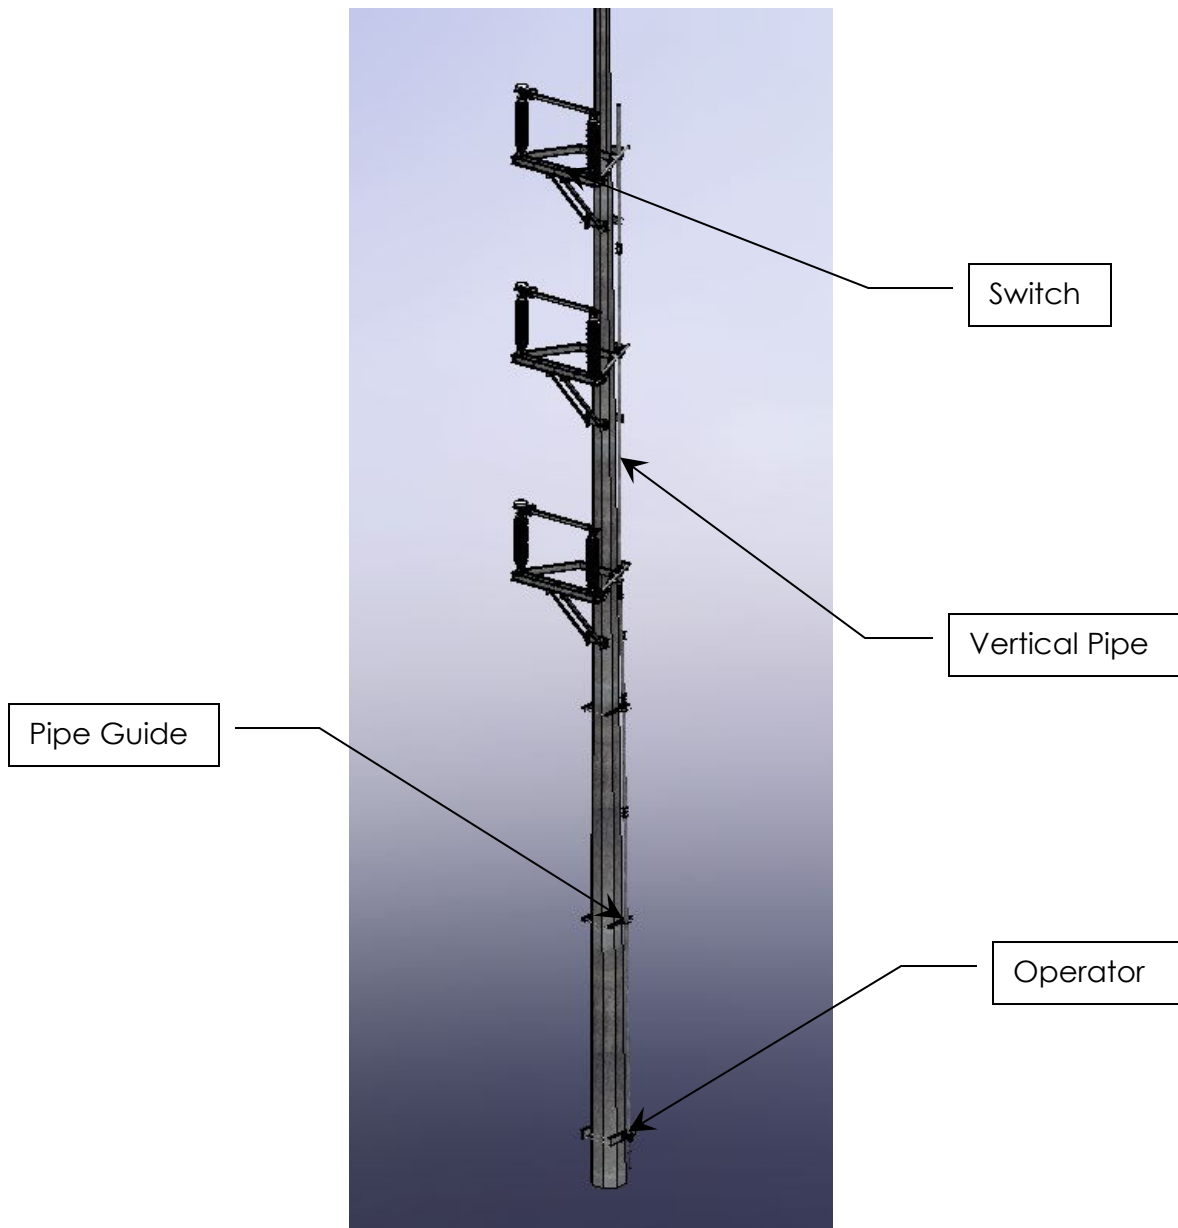

Figure 16: Example ES-1 Operation Mechanism
3. Refer to the Operating Mechanism drawing and install all mounting brackets, bearings, and bushings to the pole. See Figure 16 for an example ES-1 Operating Mechanism.